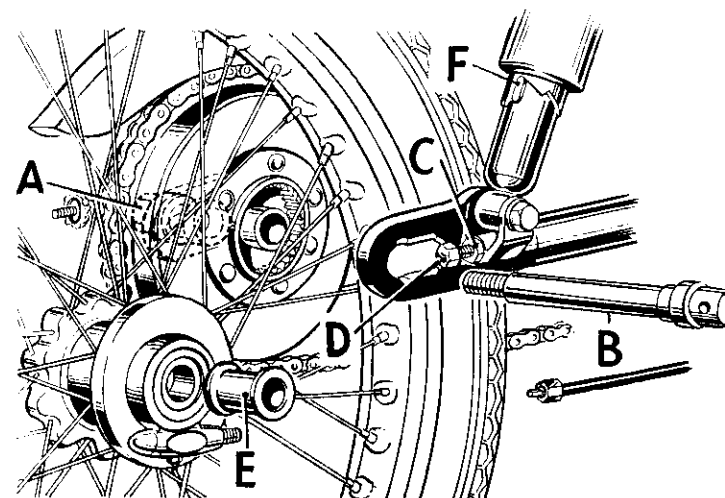

FIG. 20. Rear wheel removal, also showing the position of the adjuster bolts for moving the wheel.
Put the machine on its centre stand. To adjust the chain, the rear wheel must be moved. First, the nut securing the torque arm to the brake plate must be slackened slightly so that the plate may pivot freely. Slacken the spindle (B) Fig. 20, on the right-hand side of the machine, a few turns, and then nut (A) just sufficiently to allow the wheel to move.